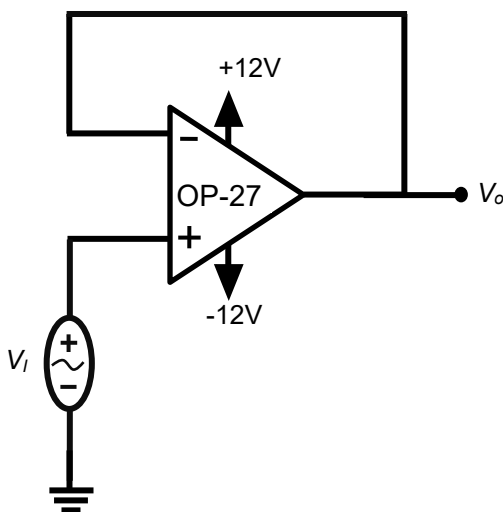

Figure 2. Unity gain amplifier using OP27 op-amp.
- Draw the step response of the unity gain amplifier using OP27 op-amp based on the typical value of SR and compare it to the response of the ideal op-amp. Refer to Figure 2.43 (Sedra and Smith 7th edition) on pp. 113. The unity gain amplifier is shown in Figure 2 in this handout.
1. Using the OP27 op-amp, connect the unity gain amplifier as shown in Figure 2.
1. Diagram of Figure 2. (2 pts)